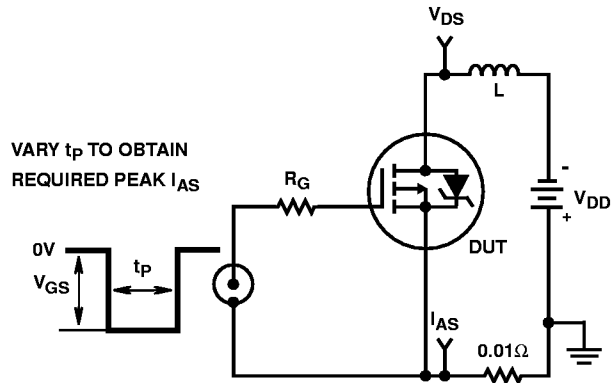

FIGURE 15. UNCLAMPED ENERGY TEST CIRCUIT
- $V_{DD} = 25\text{V}$, starting $T_J = 25^{\circ}\text{C}$, $L = 4\text{mH}$, $R_G = 25\Omega$, peak $I_{AS} = 19\text{A}$. (Figures 15, 16).